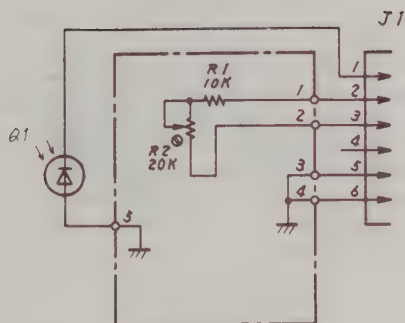

Fig. 6-11 Circuit Diagram of
- Fig. 6-11 : Circuit Diagram of MA916A Optical Power Sensor.